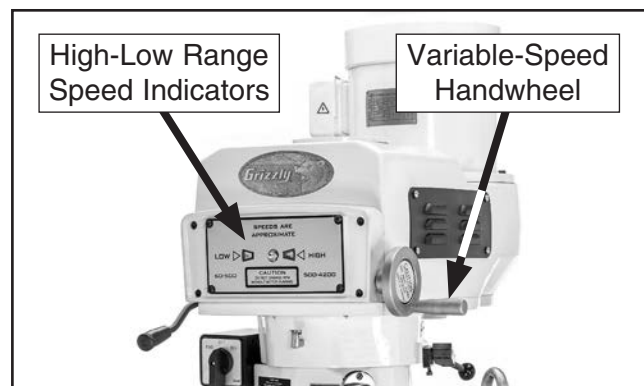

Figure 43. Location of Model G0797 variable-speed controls.
- Slowly rotate variable-speed handwheel shown in **Figure 43** until desired speed is displayed in indicator when speed range selected.